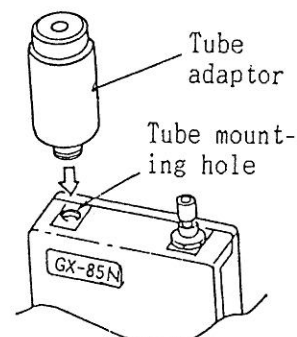

Fig 3-1
- 1) Screw up the adaptor of detector tube to the tube mounting hole (Fig 3-1).